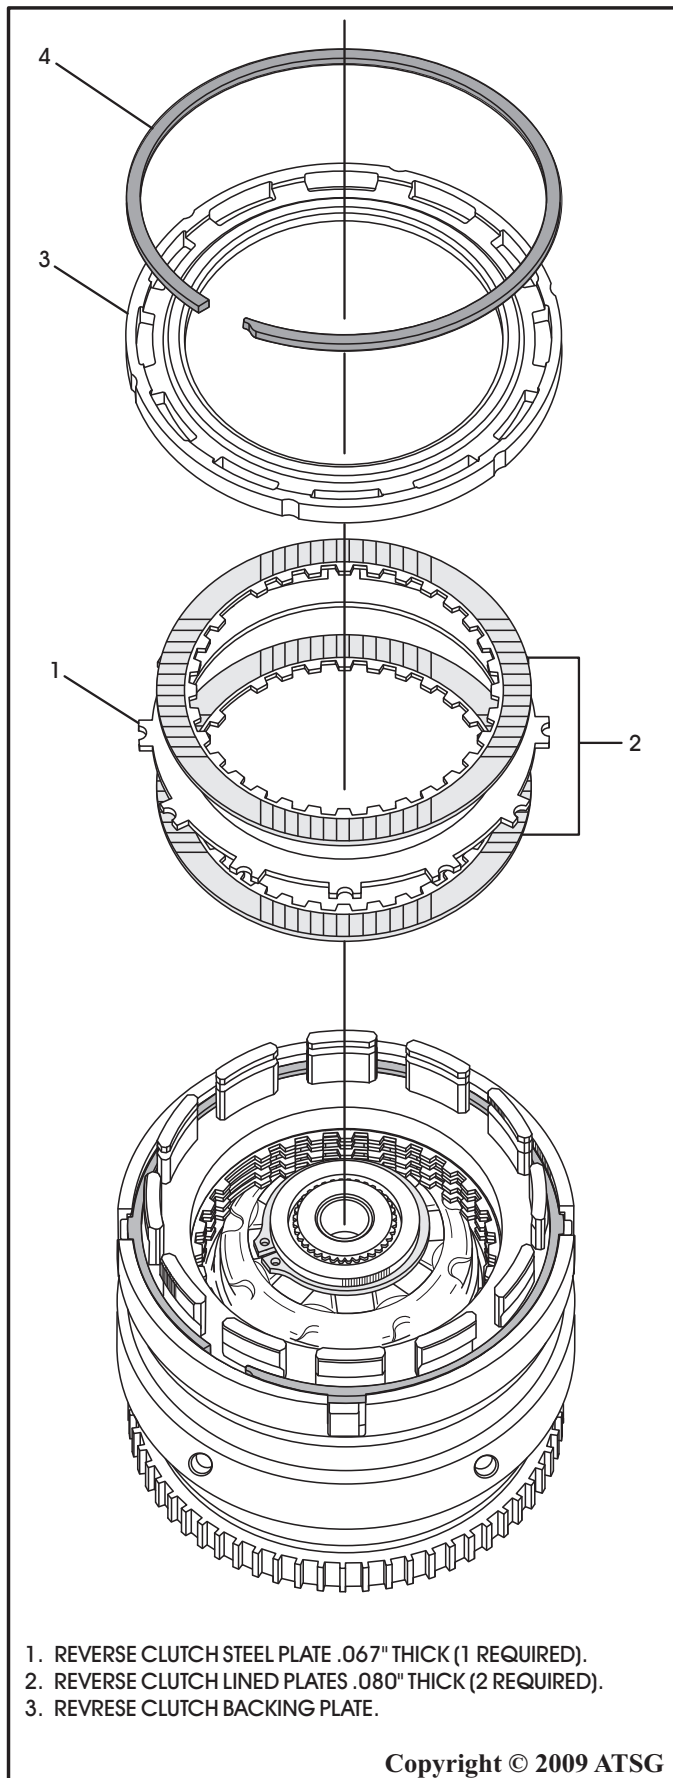

Figure 80
35. Install the reverse clutch pack beginning with a lined plate and alternating with steel plate until you have installed two lined plates and 1 steel plate, as shown in Figure 80.
36. Install the reverse clutch backing plate with the flat side down, as shown in Figure 80.
37. Install reverse clutch backing plate selective snap ring as shown in Figure 80.
48. Re-install the reverse clutch pack completely as shown in Figure 80.